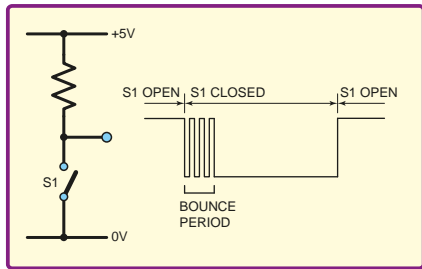
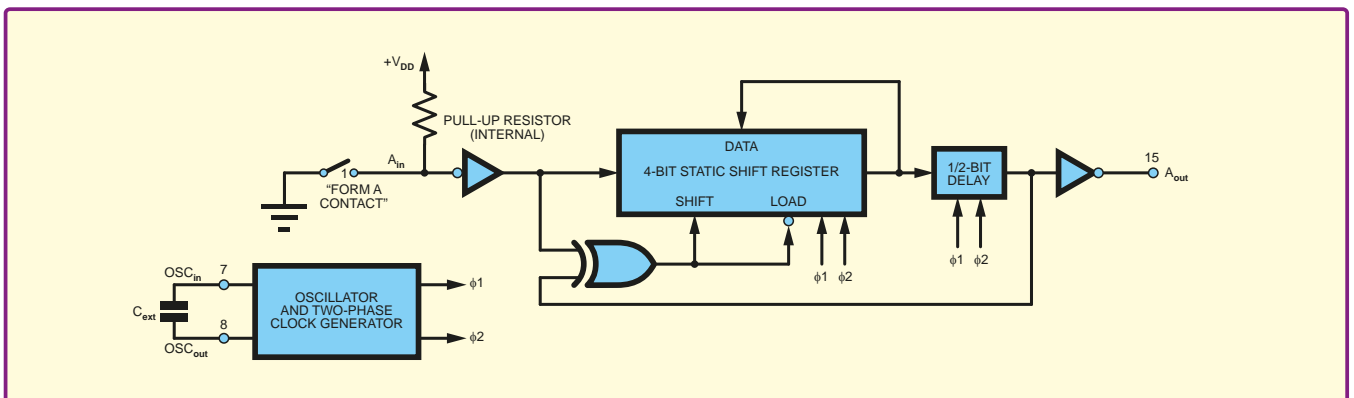
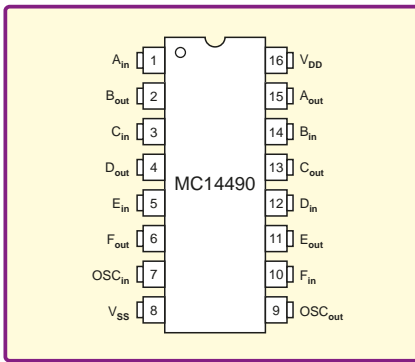

Fig.3. Signal from a bouncing switch
Fig.7. Bounce elimination circuit using the MC14490 from On Semiconductor ([www.onsemi.com](http://www.onsemi.com))
Fig.8. MC14490 pin out
Figure 3 shows a typical signal from a bouncing switch and pull-up resistor – the type of switch arrangement that we might use when connecting a switch to a digital circuit. Whether or not the bounce matters depends on how the circuit responds to the bounce. If, for example, we connect the circuit in Fig.3 directly to the clock input of a counter it will count each bounce rather than each switch press.
The RS debounce circuit requires a changeover switch. Unfortunately, the switches used in rotary encoders are single pole, so this approach cannot be used. For a single-pole switch, as shown in Fig.3, the signal due to a bouncing switch is a series of pulses and is logically no different from a legitimate series of pulses. The only way to distinguish between them is in terms of their timing. Switch bounces typically last from units to tens of milliseconds (the bounce period in Fig.3), but the time varies depending on the type of switch, so manufacturer’s data should be consulted when it is of concern. For human-actuated switches, including those inside rotary encoders, intervals between real switching will be much longer than bounce pulses and hence possible to distinguish.
and S2 implemented using voltage controlled switch elements. The signal from S1 is filtered by C1 and R2 to remove bounce, but S2 is unfiltered and is basically the same as Fig.3. The points at which switching occurs are controlled using a pulse voltage source,  $V_{swcontrol}$ , for which the pulses are defined using a piecewise linear waveform definition. Waveforms from the simulation are shown in Fig.6.
A digital approach to bounce elimination is shown in Fig.7. This is the circuitry used in each channel of the MC14490 hex contact bounce eliminator from On Semiconductor ([www.onsemi.com](http://www.onsemi.com)). The pin-out is shown in Fig.8. The MC14490 is able to eliminate bounce from a single pole switch, such as that shown in Fig.3 and is suitable for use with rotary encoders. The circuit works by ignoring input changes until the change has been sustained consistently for at least four of its clock cycles. First consider a bounce-free input to the circuit in Fig.7. Assume the input has been 1 for a long time (switch open). All the bits in the shift register will be 1, as will be the output. Since both the output and input are 1, the two inputs to the XOR gate are equal, so it outputs a zero. Thus the shift register executes a parallel load of the output value (1) and consequently stays at 1.